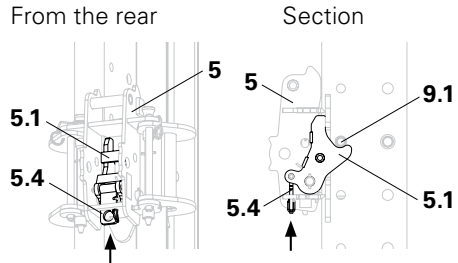

Fig. 61: Manually activated climbing pawl
2. Press the pawl lock (5.4) upwards by hand so that the climbing pawl is activated. (Fig. 61)